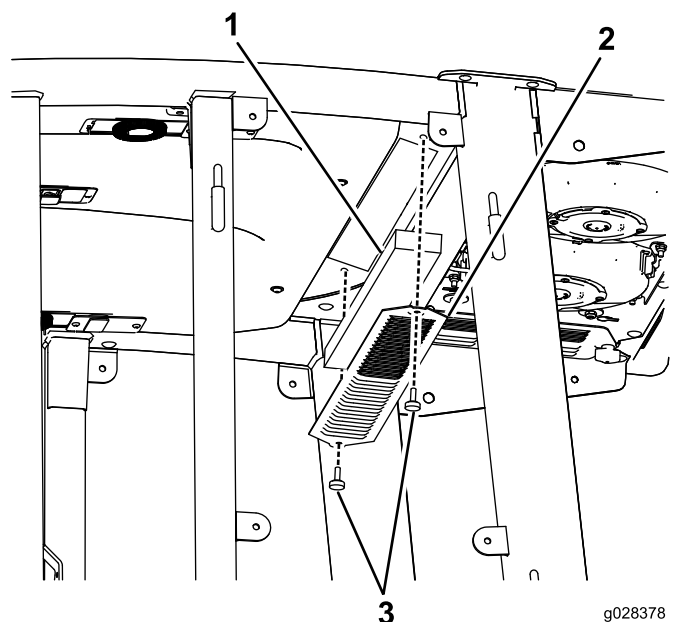
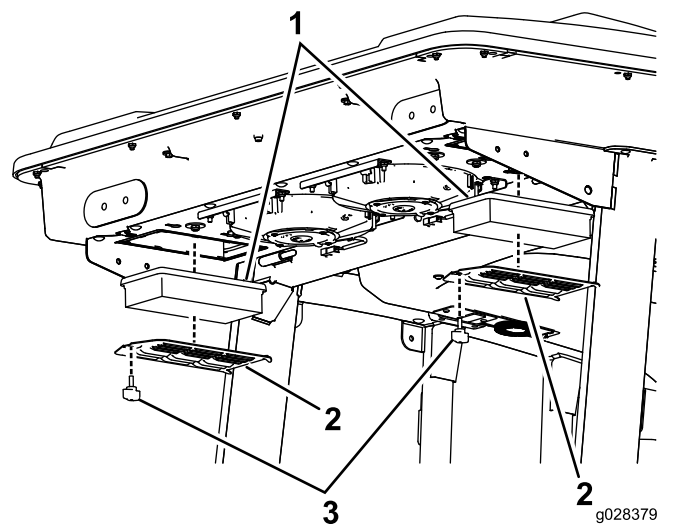

Figure 93
Figure 94
1. Remove the screws and grates from both the in-cab and rear cab air filters (Figure 93 and Figure 94).
4. Remove the air filters (see Figure 94).
6. Install the air filters, screen, and fan assembly (Figure 94, Figure 96, and Figure 97).